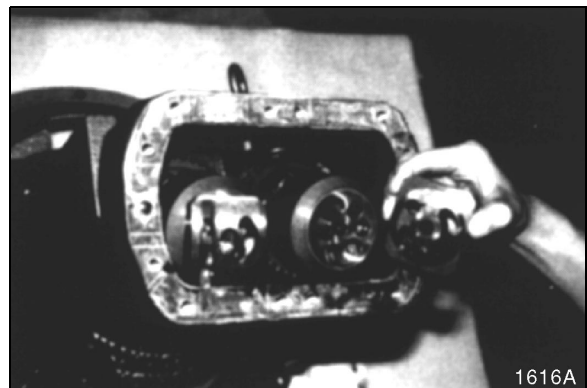

Figure 23
7. Remove control plate. See Figure 23.